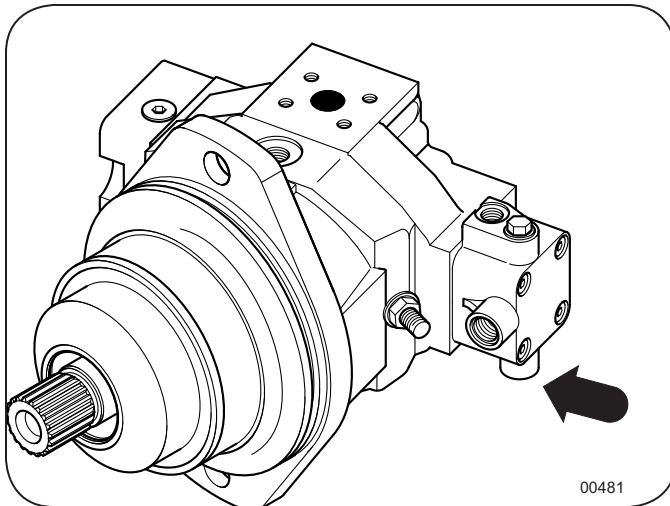

Figure 18: Drive Motor Port "M1"
6. Locate port "M1" on each track drive motor. See Figure 18.